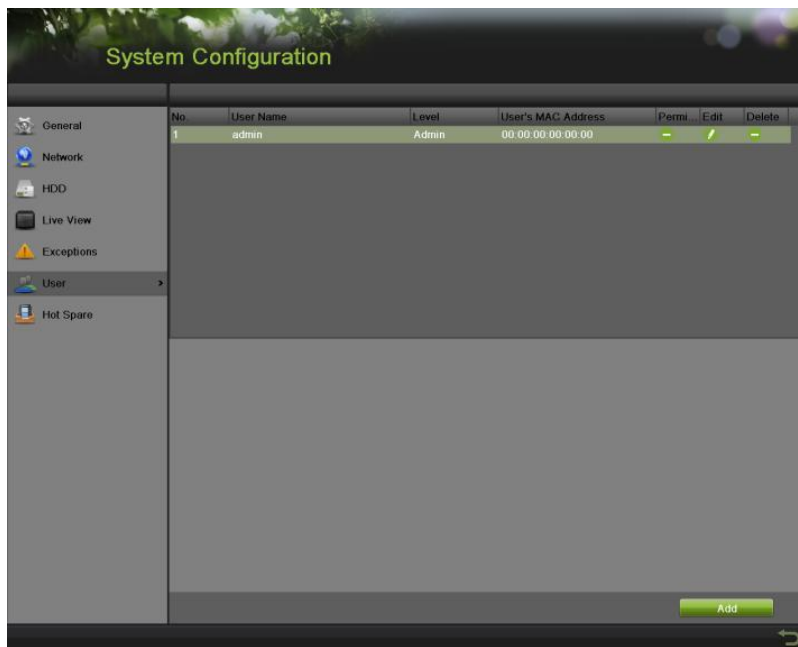

Figure 68 User Settings Menu
You can change the default password by going to Menu > System Configuration > User, as shown in Figure 68.
1. On the User tab shown in Figure 68, click Add to enter Add User interface, as shown in Figure 70.